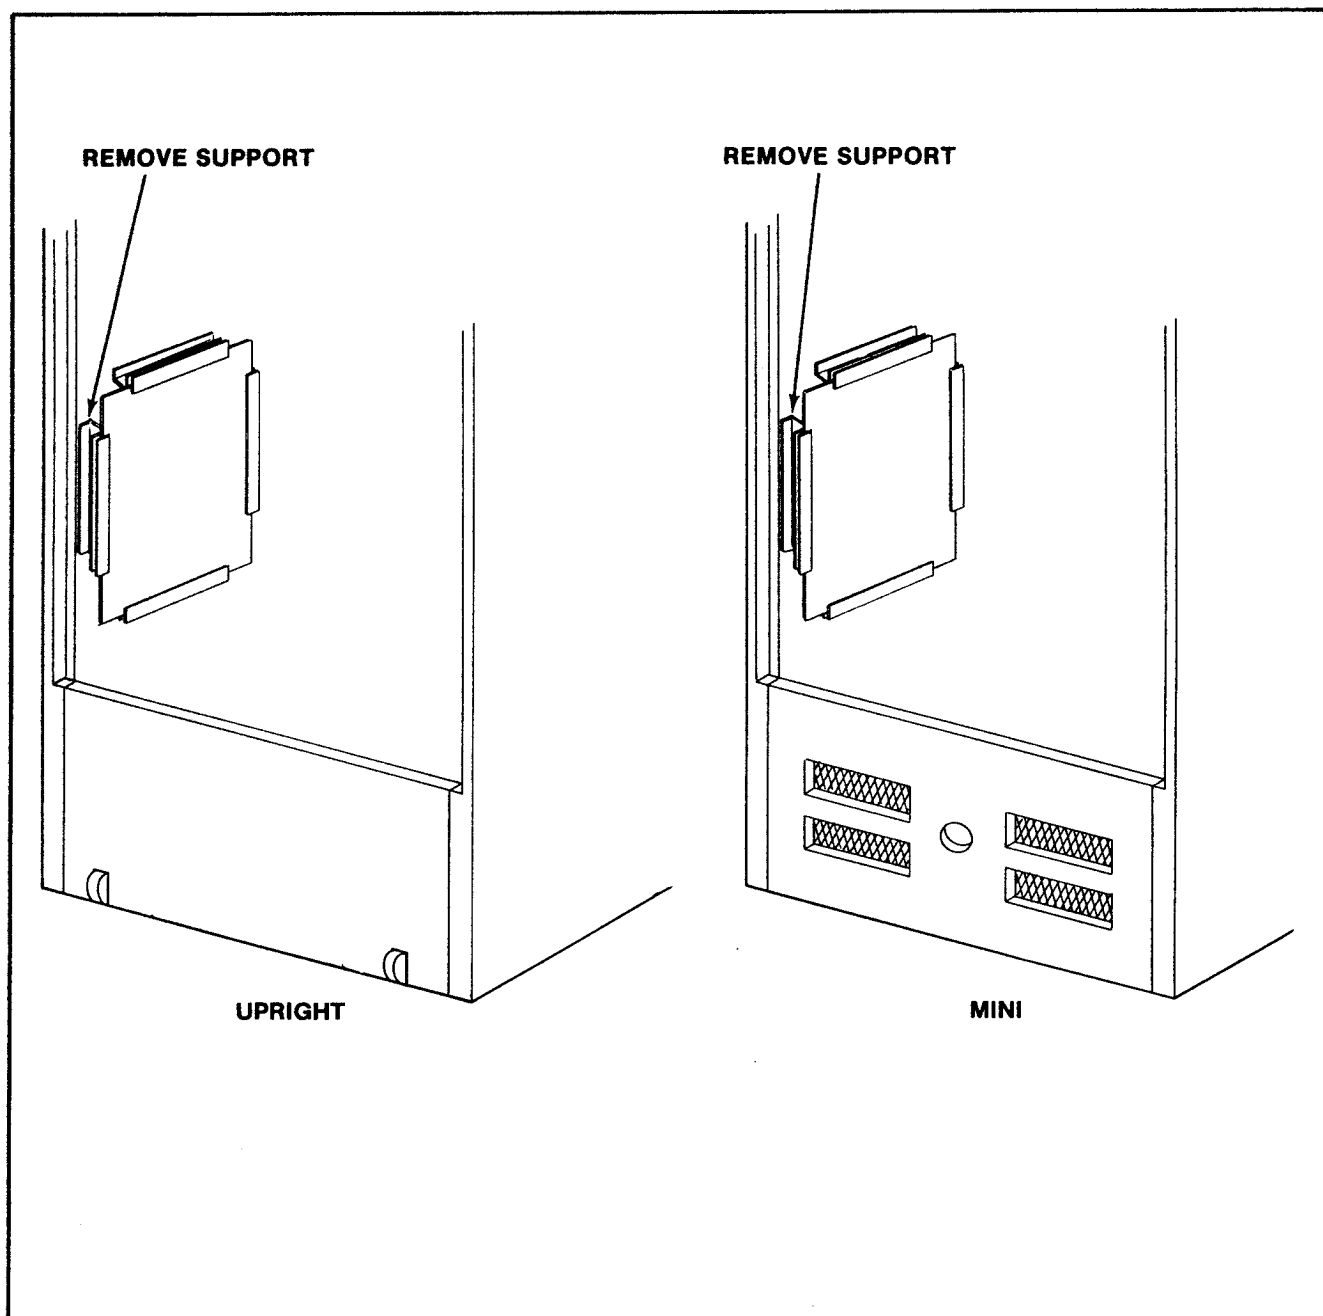

Figure 4-13 Removing PCBs
1. UPRIGHT MODEL. See Figure 4-13.
- ☐ Disconnect the linear power supply board from all its cabling, remove the P.C.B. supports indicated in Figure 4-13, and slide the linear power supply board out the back of the cabinet.
2. MINI MODEL. See Figure 4-13.
- ☐ Disconnect the linear power supply board from all its cabling, remove the P.C.B. supports indicated in Figure 4-13 and slide the linear power supply board out the back of the cabinet.
3. COCKTAIL TABLE MODEL. See Figure 4-13.
- ☐ Remove the linear power supply board. See Figure 4-13.